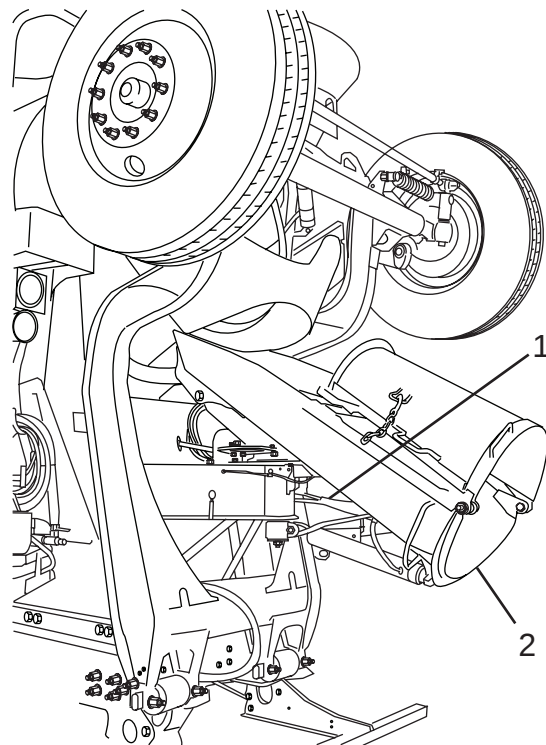

Figure 31
2. While holding the chute, pull down on the lever (Figure 31, Item 1) and move it to the right or left until the lever is seated in one of the lock positions.
3. Move the main chute (Figure 31, Item 2) to the desired position, and while holding the chute, move the lever to the center. Make sure the lever pin is fully seated into one of the holes in the chute plate before releasing the chute. Move the chute from side to side as needed to align the pin and hole.